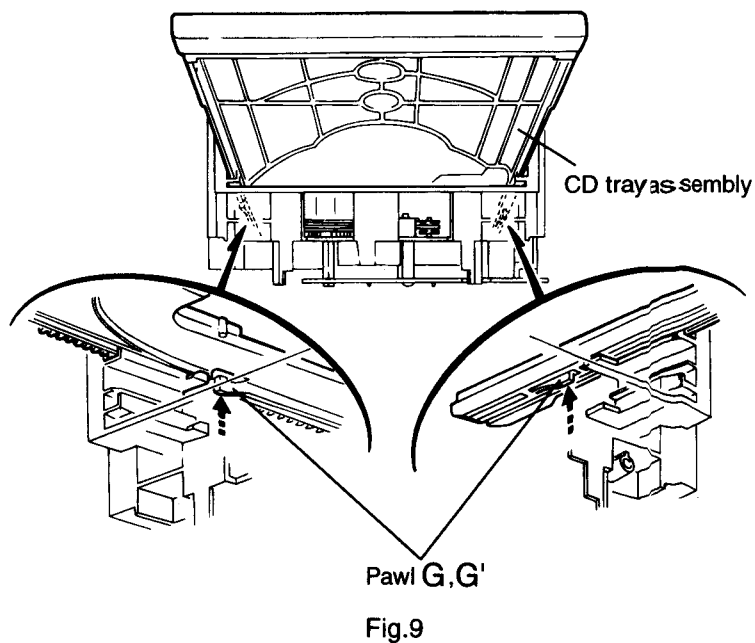

Fig.9
15. At the position where the CD tray assembly has stoppend, pull out the CD tray assembly while pressing the two pawls "G and G'" on the back side of CD tray assembly (See Fig.9). In this case, it is easy to pull out the assembly when it is pulled out first from the stage CD tray assembly.